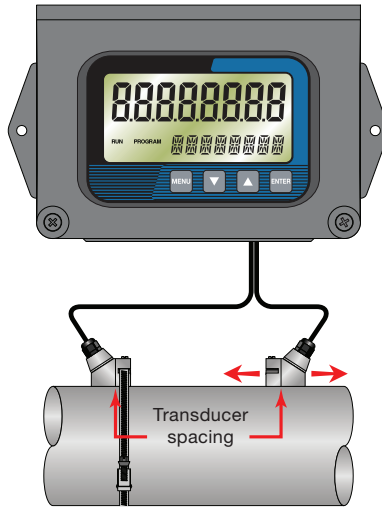

Fig. 11 Transducer positioning
- 2) Place the downstream transducer on the pipe at the calculated transducer spacing (Fig. 11 on page 24). See "Quick-start operating instructions" on page 43. By applying firm hand pressure, test to see if the signal strength is greater than 5. If it is, secure the transducer at this location. If the signal strength is not 5 or greater, use firm hand pressure and slowly move the transducer both towards and away from the upstream transducer while observing signal strength.